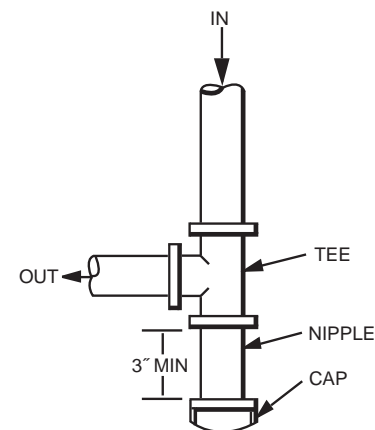

Fig. 8 – Sediment Trap
4. Install sediment trap in riser leading to heating section (See Fig. 8). This drip leg functions as a trap for dirt and condensate.